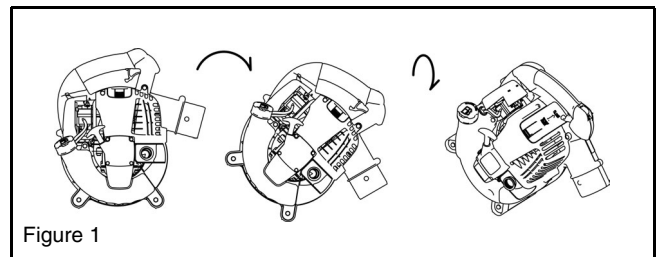
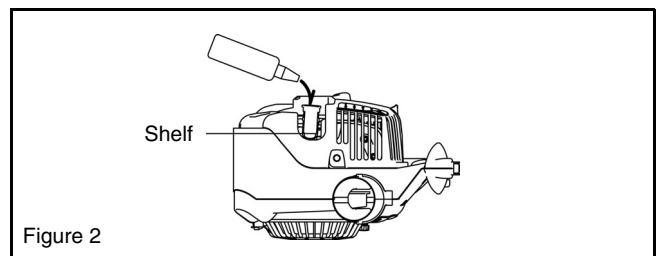

Figure 1
Figure 2
- (1) Confirm that the tank cap is tightened securely.
- (2) Detach the oil cap.
- (3) Tilt the machine in order as shown in Figure 1.
- (4) Orient the machine as shown in Figure 2 and refill oil to the shelf inside the oil pipe.
- (5) After refill, securely tighten the oil gauge. Insufficient tightening of the oil gauge will lead to oil leakage.
When opening the cover, apply fingers to the main handle and plug cover projection (Figure 1). Push up the projection and slide the cover in the "OPEN" direction (Figure 2).